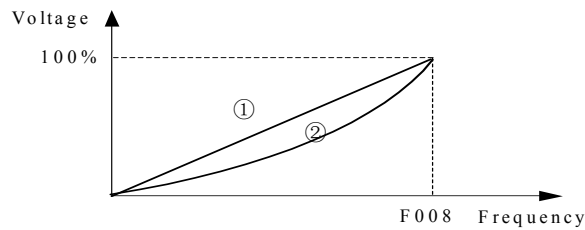

Fig. 6-7
Refer to Fig.6-7, where ① V/F constant , ② Energy-saving operation.